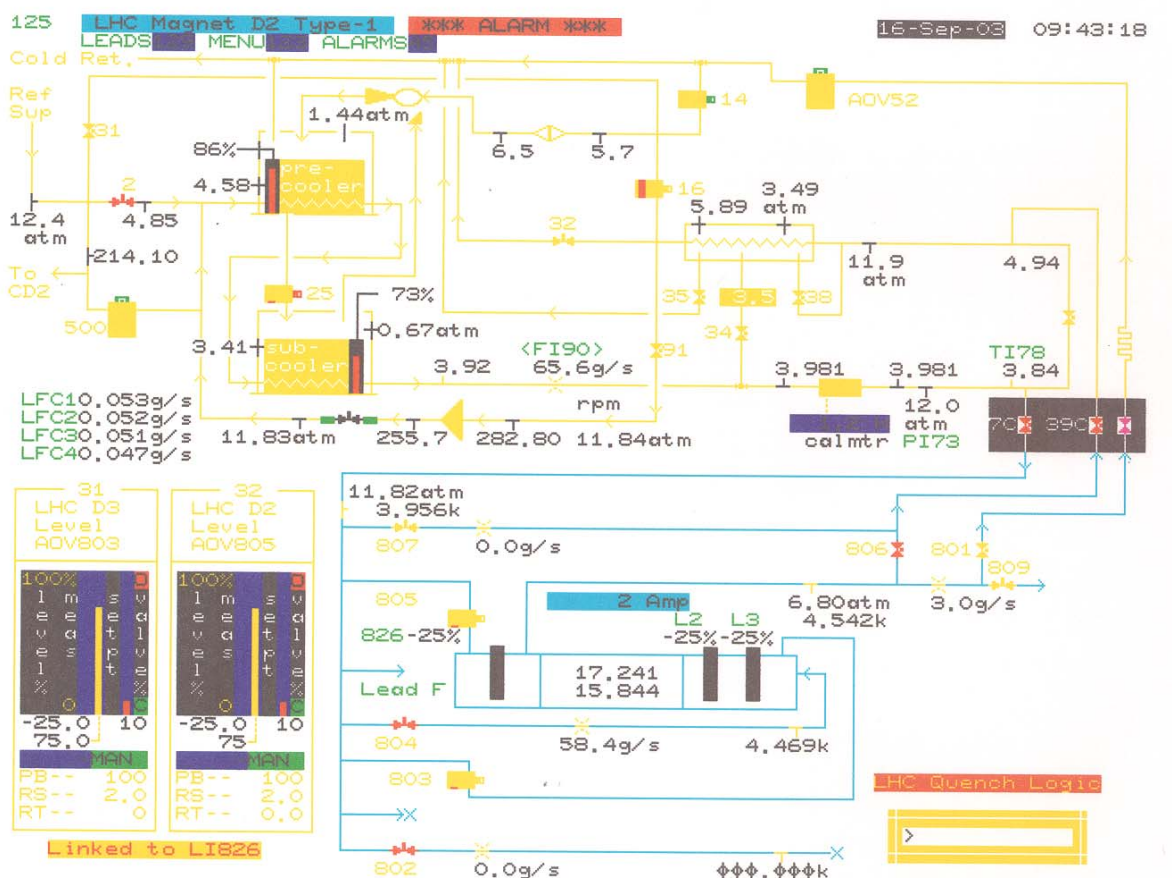

Figure 1. Display of control page D125 for Test and Measure in Bay C
- 5.3 Testing a magnet in Bay C, use screen display page D125 to monitor process condition and control (as shown in Figure 1). In the upper half portion of Figure 1, flow diagram is associated with the Low Temp. cold box. In the low portion of Figure 1, flow diagram is associated with the Bay C Feed Can and the LHC magnet. Controllers for liquid level in the end volume of the cold mass are given in the lower left corner. Valves 801 – 807 are located on the Feed Can. Liquid level gauges are installed in the end volumes of the magnet. In Forced Flow cooling, DOV804 and DOV806 are open to allow cold helium flow through the magnet. In Liquid Cool mode, the magnet serves as a liquid helium bath. High pressure helium goes through DOV807. DOV 806 is closed and low pressure boil off returns from DOV801 to Low Temp cold box. Liquid level in the cold mass is maintained by JT valves AOV803 and /or AOV805.